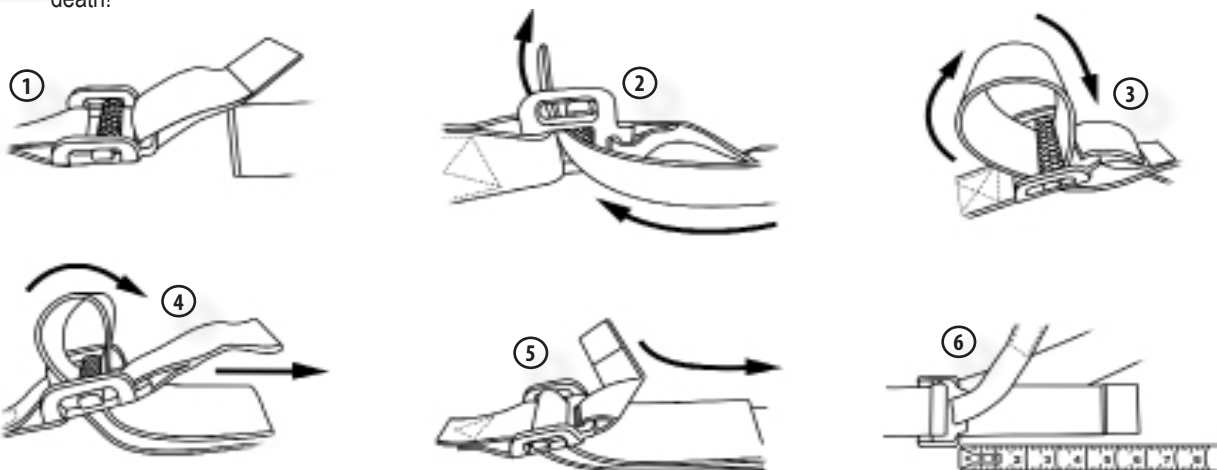

Figure 11
STEP 2: Secure the tree belt by inserting the tag (free-end) end through the slot in the buckle closest to opposite end of the tree belt, then cross over the sliding mechanism and back down through opposite slot. Pull on tree belt to secure and test to make sure sliding mechanism engages, creating secure tree belt placement. Refer to Figure 11 for proper tree belt buckle threading.
WARNING! YOU MUST thread the tree belt buckle as shown in Figure 11. Failure to thread the buckle as shown will result in the belt failing to hold and separation from the tree trunk. Failure to follow these instructions may result in serious injury or death!